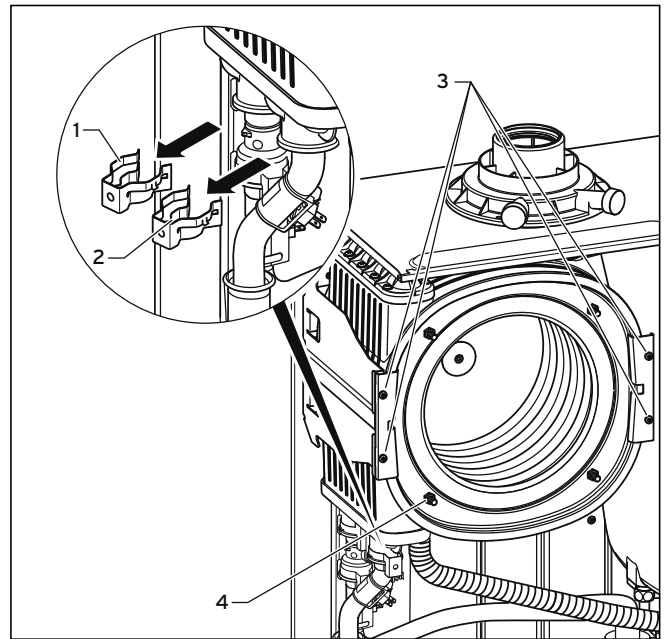

Fig. 9.5 Replacing primary heat exchanger
- You should neither loosen nor tighten the four screws (Fig. 9.5, Pos. 4).
- You must neither loosen nor retighten the four screws (Fig. 9.5, Pos. 4).